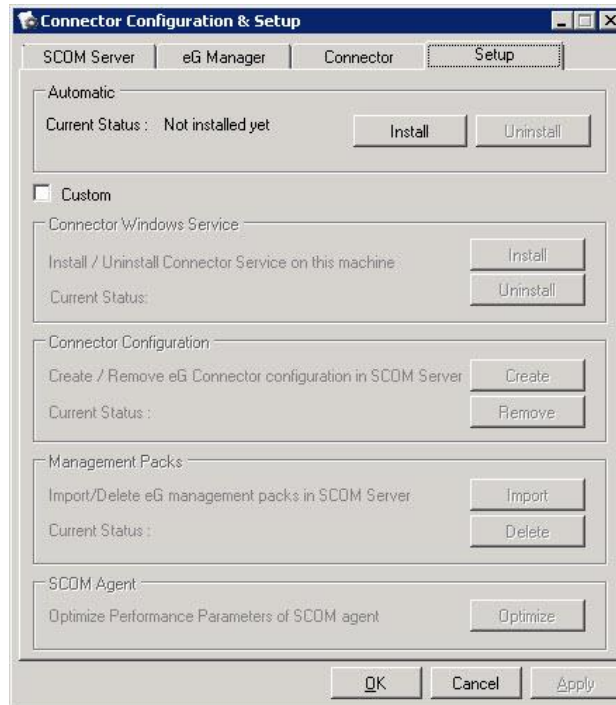

Figure 6.3: Installing the configuration for the new eG user
- Finally, return to the **Setup** tab page, and this time, click on the **Install** button (see Figure 6.3) to install the configuration for the new eG user.
- Finally, click the **Apply** and **OK** buttons in Figure 6.3.